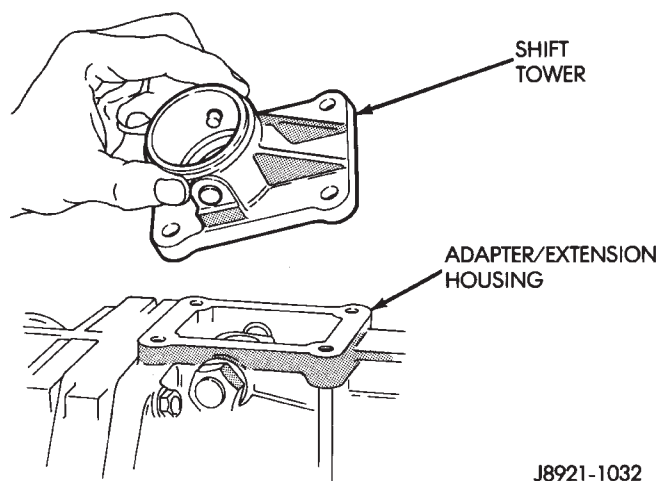
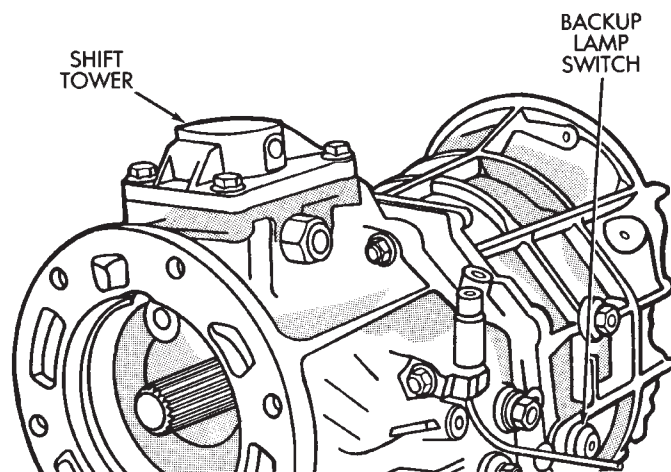

Fig. 47 Install Shift Tower
Fig. 48 Install Backup Lamp Switch
- (19) Install shift tower gasket onto shift tower.
- (20) Install the shift tower oil deflector and gasket onto the adapter or extension housing.
- (21) Install shift tower onto transmission case (Fig. 47).
- (22) Install bolts to hold shift tower to transmission case. Tighten tower bolts to 18 N·m (13 ft. lbs.) torque.
- (23) Install new metal o-ring onto the backup lamp switch.
- (24) Install backup lamp switch (Fig. 48). Tighten switch to 44 N·m (32.5 ft. lbs.) torque.
- (25) Install new seal in adapter/extension housing.
- (26) Install vehicle speed sensor, if necessary.
- (27) Install clutch housing, release bearing, release fork and retainer clip.